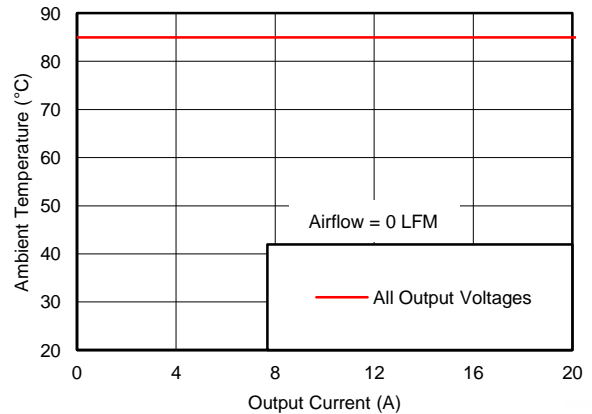

Figure 9. Safe Operating Area (0 LFM)
- (2) The temperature derating curves represent the conditions at which internal components are at or below the manufacturer's maximum operating temperatures. Derating limits apply to devices soldered directly to a 100 mm x 100 mm six-layer PCB with 1 oz. copper. Applies to Figure 9.